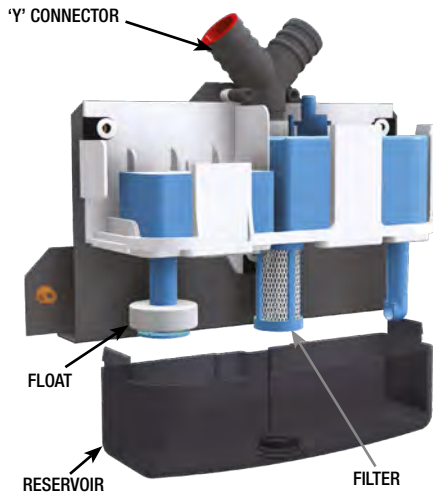

FIGURE 24. CONDENSATE PUMP
- 17.8.1 Refer to section 16.3. See Figure 24 & 28.